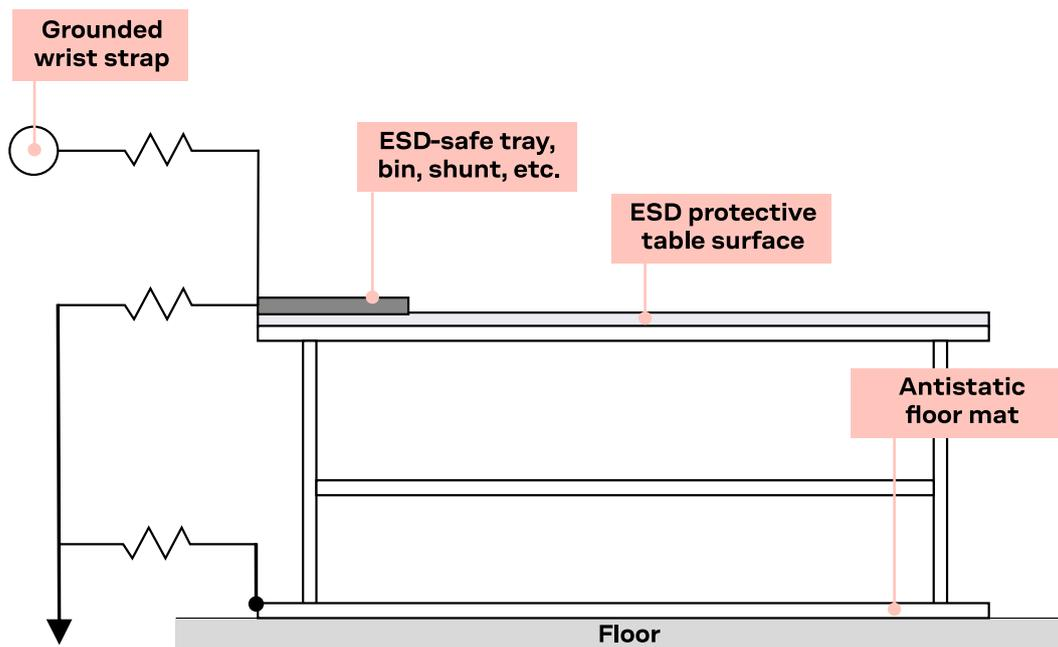

Figure 29: Standard workstation setup for safe handling of ESD-sensitive devices
- Open the package within an ESD-protected area (EPA), as in Figure 29.